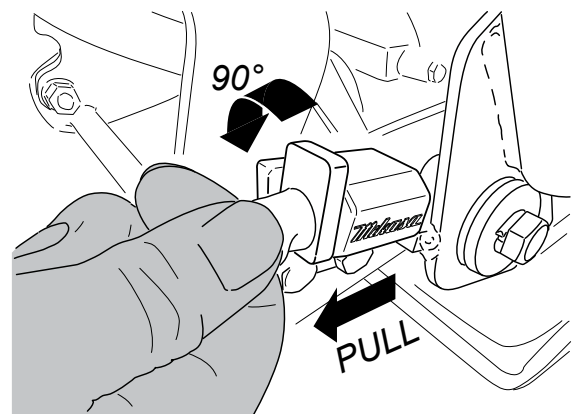

Figure 16. Releasing Handle
5. Pull out the eye nut and turn 90° to the left to release the handle (Figure 16).